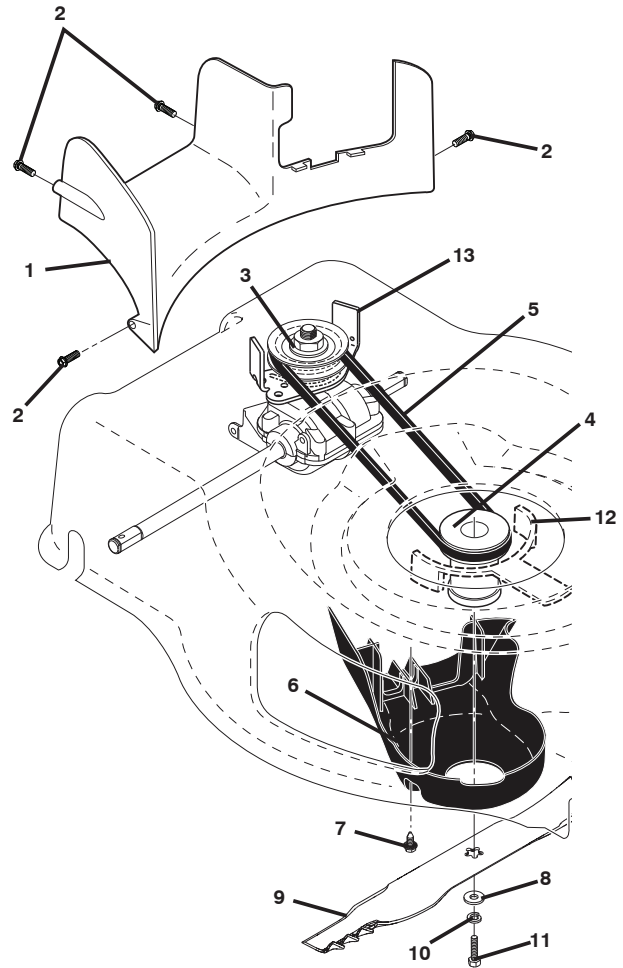

Figure 27
1. Remove screws securing rear baffle (Figure 27).
1. Place new drive belt on gearcase pulley (Figure 27).